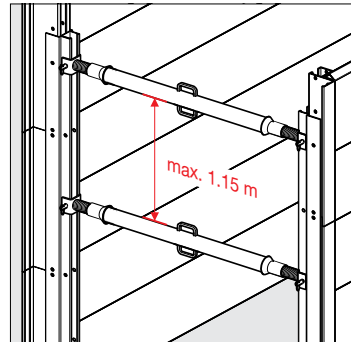

Fig. 4
- The vertical distance between trench struts may not exceed 1.15 m (Fig. 4).